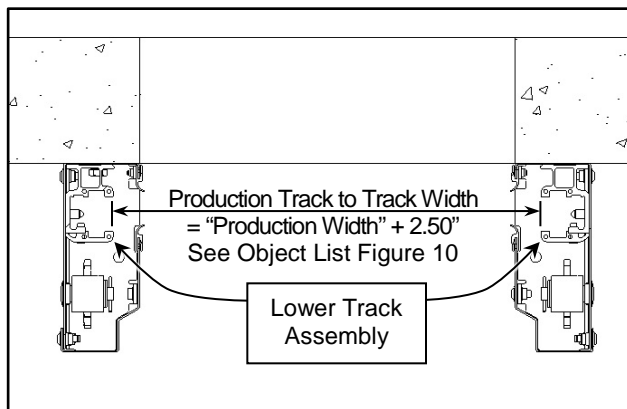

Figure 28
**IMPORTANT: Lower Track Assembly spacing is critical and they must be spaced as in Figure 28.**
18. Check the alignment between both track assemblies and Track to Track width as given in the Object List. Adjust as necessary. (See Figure 10, Figure 28 and)